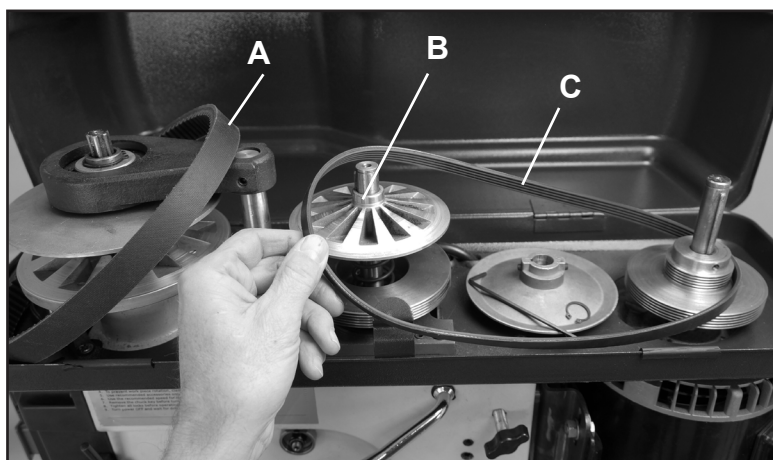

FIG. 24
2. With the chuck key, turn the upper, knurled section of the chuck to open the three chuck jaws. FIG. 24.
3. Open the top lid to access the drive belts. Remove the large, front V-Belt (#12C, Fig. 24, A). This is done by first removing the top, Fixed Motor Pulley (#30B) from the center Pulley Shaft (#23B, B). Take off the Circlip Ring (#29B), loosen the two Hex Set Screws (#32B), and lift the pulley off of the shaft.
4. Work the front, large drive belt (A) up and off of the center shaft and lay in aside to re-install later.
5. Remove the rear Drive V-Belt (#1C, Fig. 24, C) from the rear pulley and center shaft.